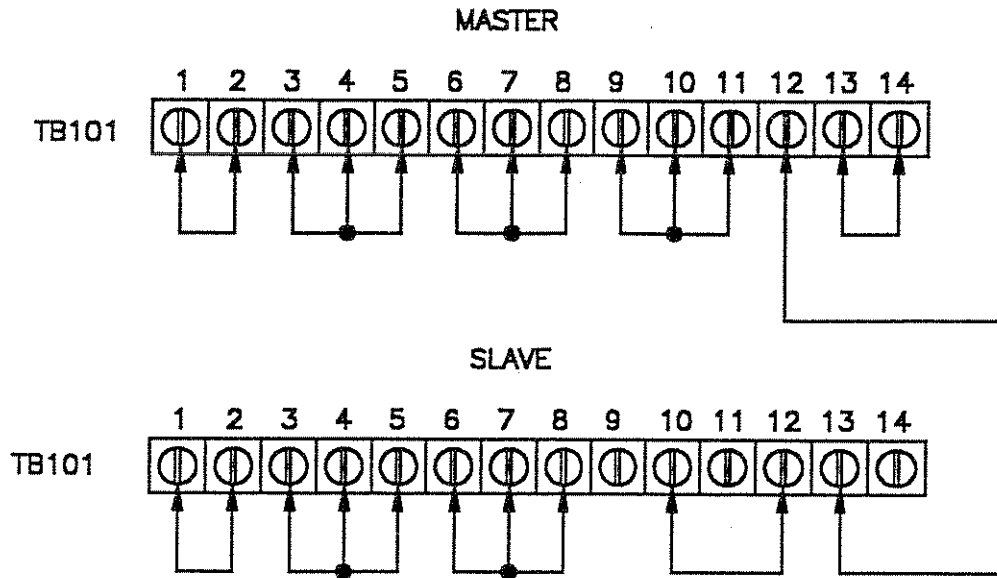

Figure 10: Parallel Operation Master/Slave.
3.3.7 Parallel Operation (Figure 10)